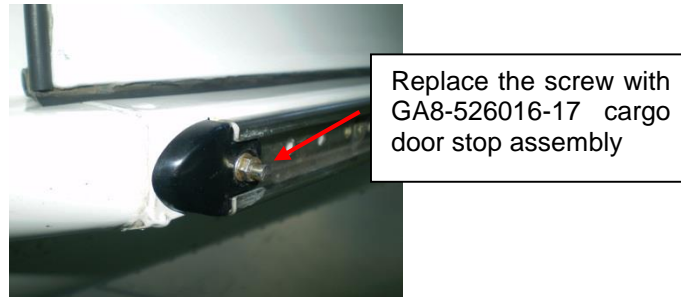

Figure 7: Fwd Door Stop Installation
- 4.1. Remove the existing MS24694-S52 screw and install it with, item 19, cargo door stop assembly (Figure 7).